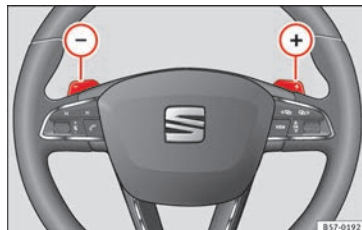

Fig. 200 Steering wheel: automatic gearbox levers
- Press the gearshift paddle  to select a higher gear **»» Fig. 200**.